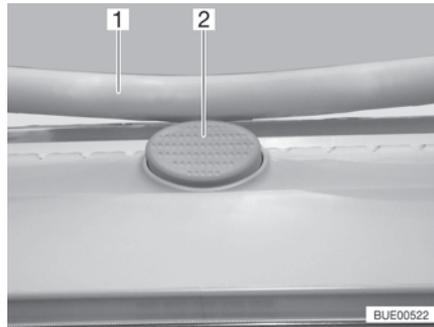

Fig. 107 Safety knob on the Heki skylight
- Press the safety knob (Fig. 107,2) and pull the bar (Fig. 107,1) down with both hands.
- Push the bar upwards with both hands until it is above the safety knob (Fig. 107,2).